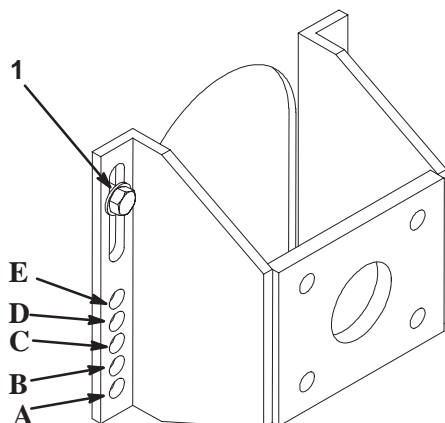

Figure 27
5. Loosen, but do not remove, the 2 axle pivot bolts (Fig. 27).
6. Remove the 2 axle adjustment bolts (Fig. 27).
7. Raise or lower the mounting bracket, so that you can install the 2 axle adjustment bolts in the desired hole location (Fig. 27). A tapered punch can be used to help align the holes.